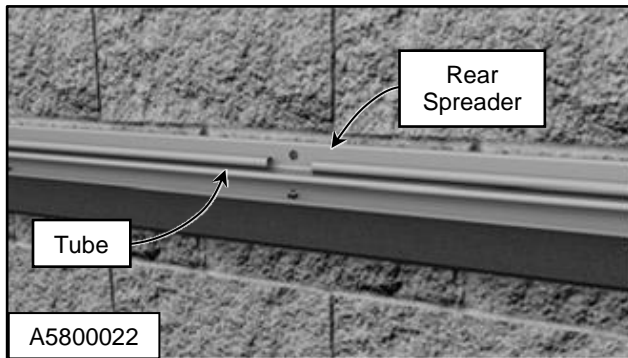

Figure 32
2. Route LED light cables toward the System 4 control panel. Use tubes on the rear spreader for routing all cables and wires to the control panel. (See Figure 32)